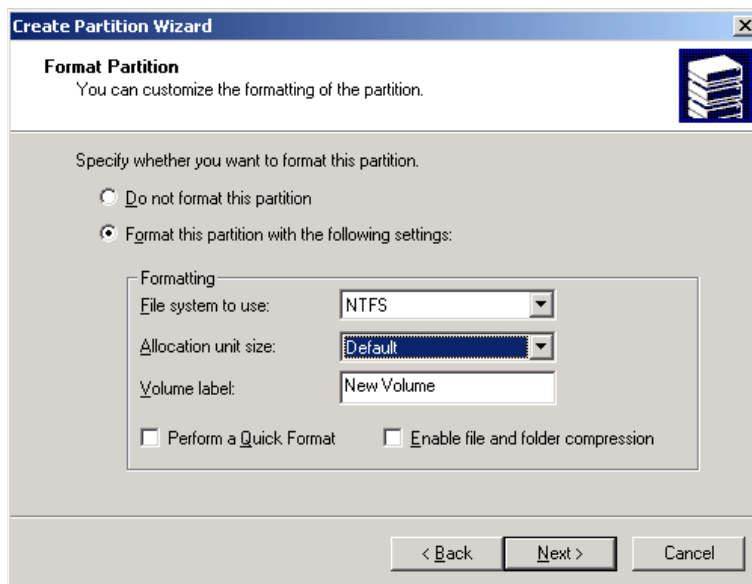

Figure 3.6 Format Partition Window
4. Click **Next**. The Format Partition window displays (see Figure 3.6).